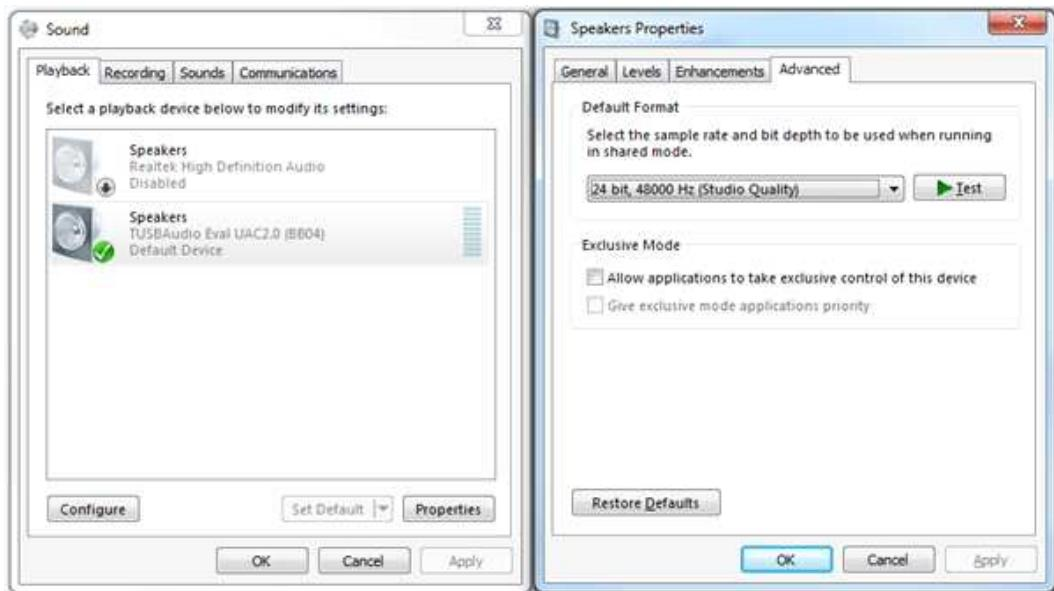

Figure 2. Playback Device Settings
8. Verify that the EVM is the default playback device by opening the sound dialog from the Windows® Control Panel as shown in Figure 2.
6. Verify that the EVM is the default playback device by opening the sound dialog from the Windows® Control Panel as shown in Figure 2.